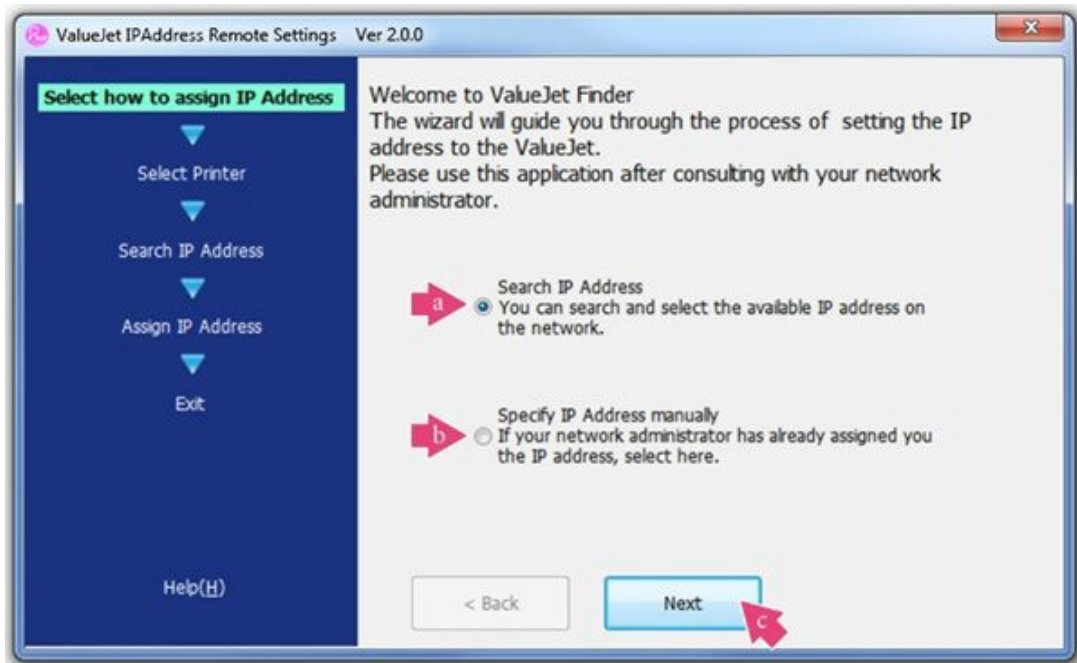

Figure 19
6. The wizard will guide you through the process of setting the IP address to the printer. Here the application will default to **Search IP Address (a)**, where you can search and select an available IP address on your network. In circumstances where a network administrator has already assigned an IP address for the printer to be used on, you will need to select **Specify IP Address Manually (b)** where you will then be prompted to enter the designated IP address. Select Next to continue. See Figure 19.